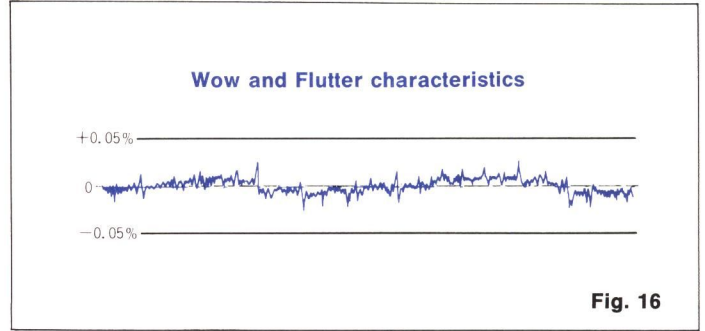

Fig. 16
⑦ RUMBLE AND WOW & FLUTTER CHARACTERISTICS EXCEED THE RECORDS CAPABILITIES (Fig. 16 and 17)